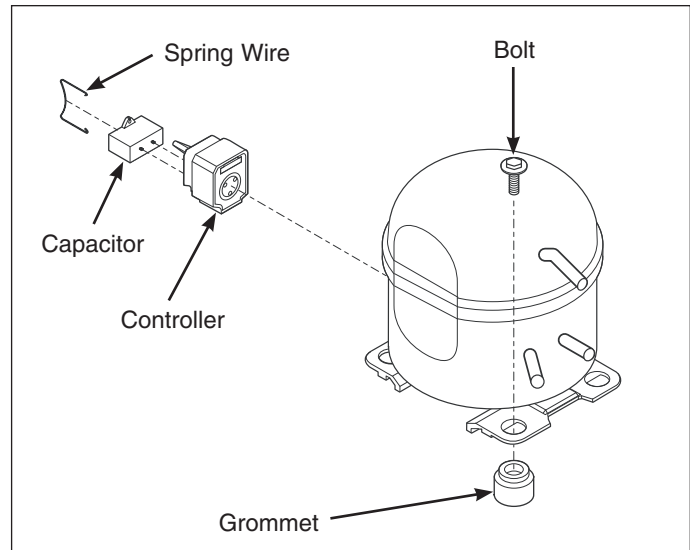

Figure 6-30. Compressor Components
The compressor sits on four grommets and is secured with four screws to the compressor mounting plate. (See Figure 6-30)
6. Using a 7/16" socket, remove the (4) bolts, one in each corner, holding the compressor to the base. (See Figure 6-30)